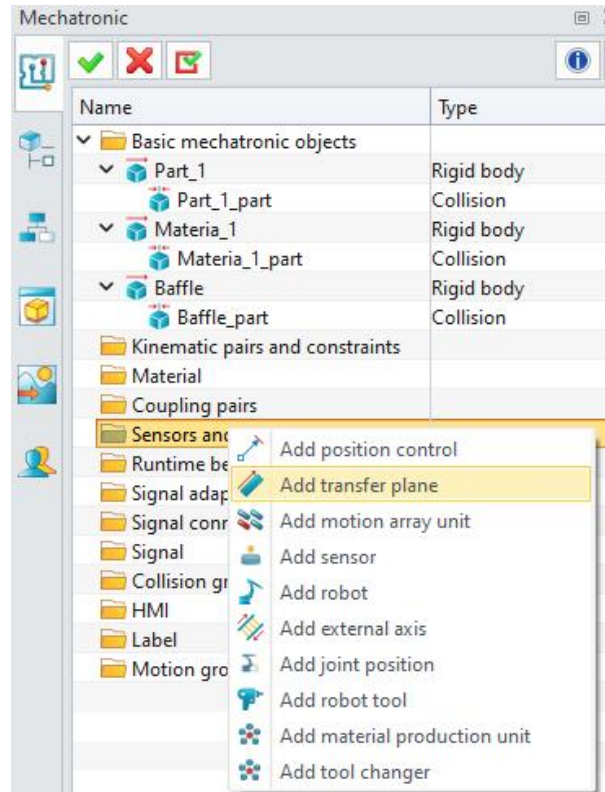

Figure 6-13: Add Transfer plane
- Right-click "Sensors and actuators" and select "Add transfer plane". (Figure 6-13)